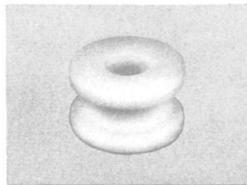

Fig. 1 - S Knob
**1.02** The S knob (Fig. 1) is designed to accommodate one drop wire.